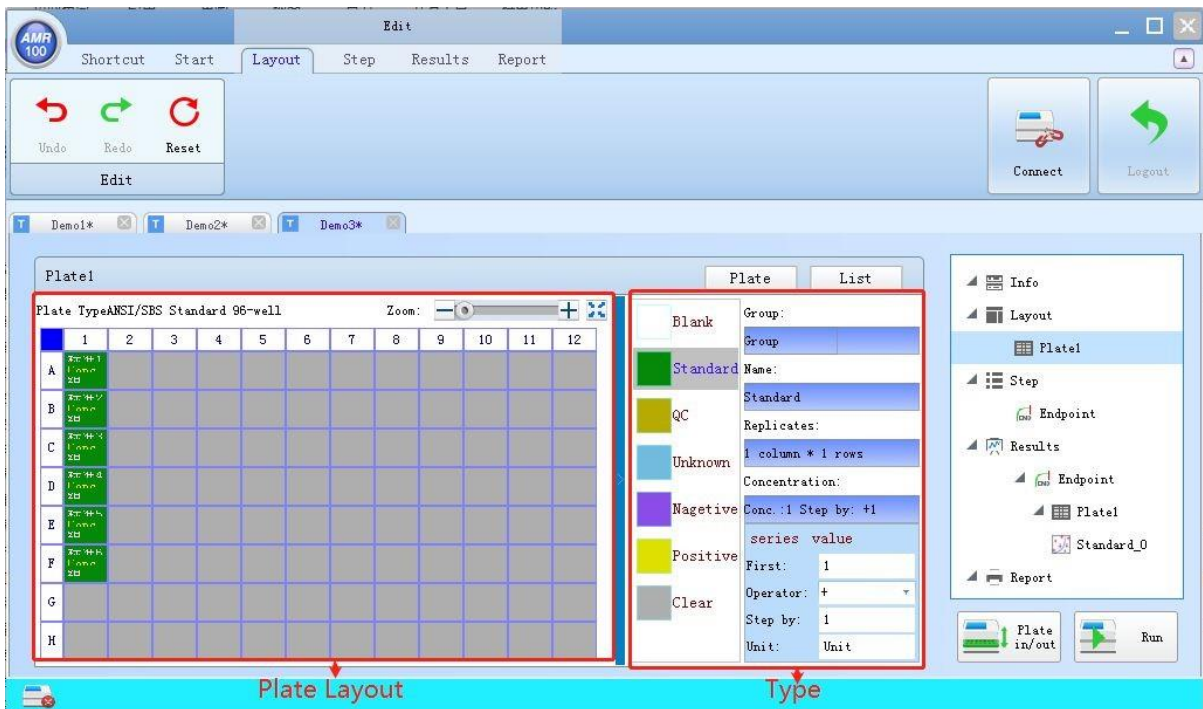

Fig 27
2) Plat layout setting: in the “Layout” interface, choose the type needed, the button will turn gray(as Fig 27), then click wells in “Play Layout” area. If the type of a well need to be changed, choose clear first, then change the corresponding well. There are 7 types of well: Blank, Standard, QC, Unknown, Negative, Positive and Clear.